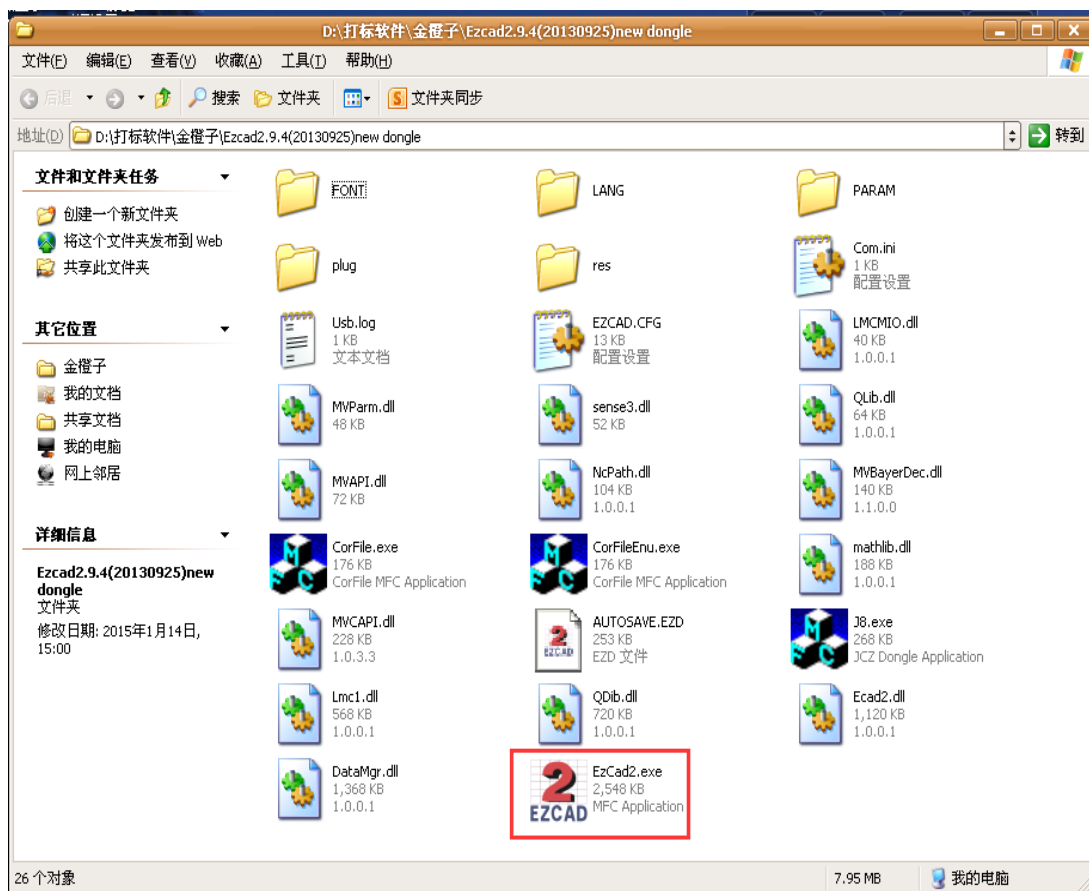

Figure 1
- (2) After successful installation, click the JCZ marking software icon EzCad2, as shown in Figure 1: